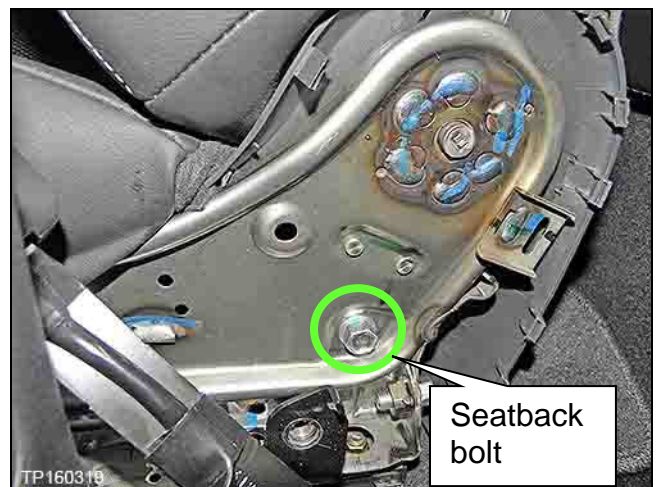

Figure 6
9. Remove the seatback bolt shown in Figure 6.